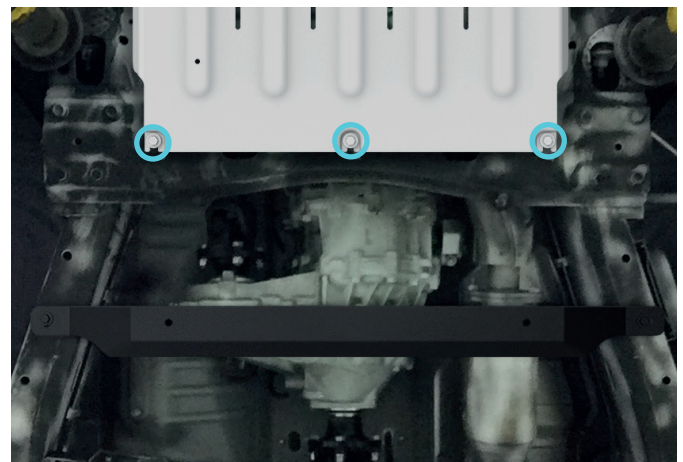

Fig. 2.2
**2.2 If RIVAL transmission skid plate is installed:** loosen its rear bolts as shown in fig. 2.2.